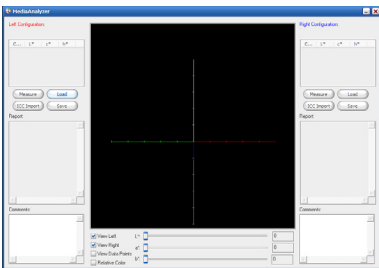
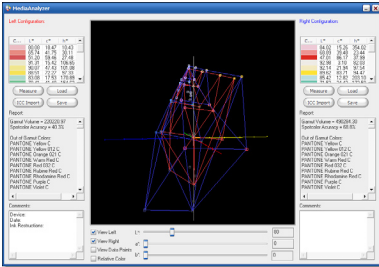

Figure 1—MediaAnalyzer Tool
Figure 4—Gamut Wireframes
The MediaAnalyzer tool allows you to visually compare two gamuts at the same time (see Figure 1). The tool contains a Left Configuration, a Right Configuration, and a Gamut Data View in the center where it maps a rough wire frame representation of up to two gamuts on an  $L^*a^*b^*$  axis (see Figure 4). This allows you to determine if your proofing gamut fully encompasses the final output gamut. If the proofing gamut does not cover the final output gamut, it cannot accurately reproduce the desired colors.
1. Launch the MediaAnalyzer by browsing to your **ONYX Graphics > Production House > Preflight** directory and double-clicking **MediaAnalyzer.exe**. This displays the MediaAnalyzer window (see Figure 1).
5. Select the desired profile, and click **OK**. The MediaAnalyzer tool displays a red wireframe which represents the gamut of the proofing profile (see Figure 4).
4. Select the desired profile, and click **OK**. The Media Analyzer tool displays a blue wireframe which represents the gamut of the final output profile (see Figure 4).